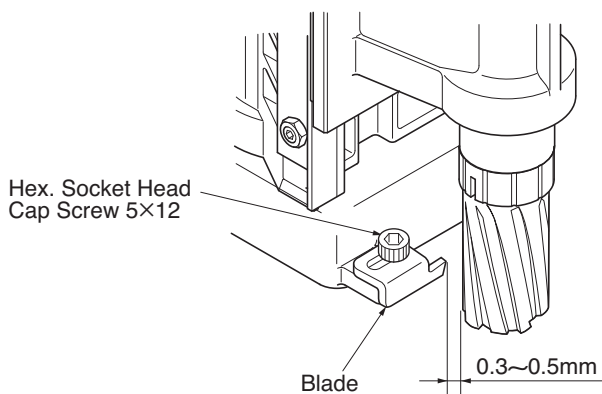

Fig. 38
#### (1) Mount Blade Base. (Fig.38)